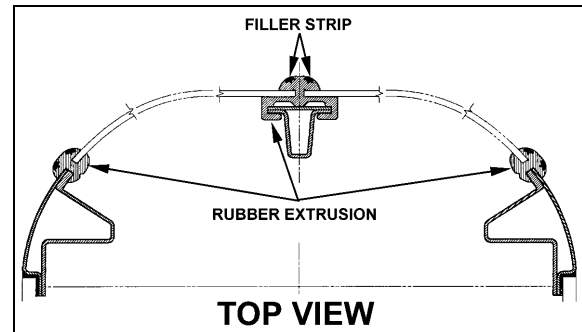

FIGURE 48: WINDSHIELD INSTALLATION TOP VIEW18098
2. Insert rope into rubber extrusion leaving enough length at each corner to make a loop. Spray soapy water onto rope and rubber extrusion (Fig. 48).